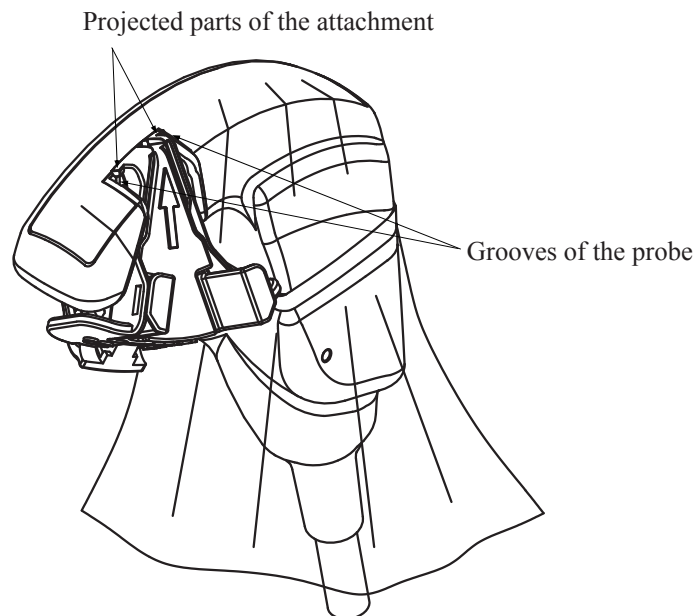

Figure 9 Attachment of Biopsy Attachment
- (5) Place the projected parts of the attachment on the grooves of the probe in order to attach the biopsy attachment to the probe. Note that the biopsy attachment is attached over the probe cover (Figure 9).